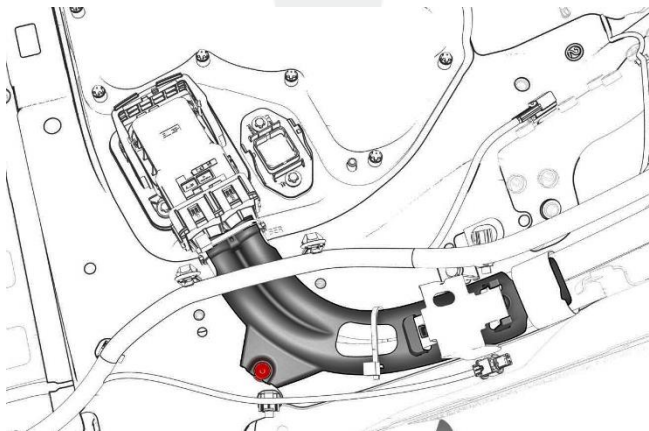

Figure 4
10. Release the clip that attaches the charge port to HV harness to the LH lower C-pillar (Figure 4).